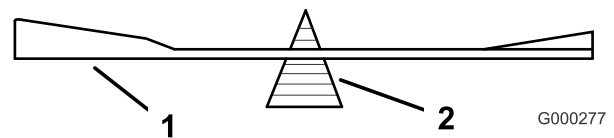
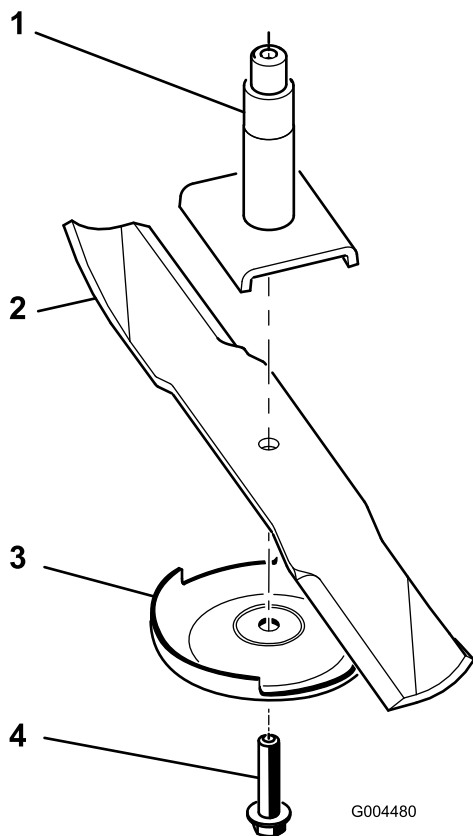

Figure 24
Figure 25
2. Remove the blade bolt, anti-scalp plate, and blade from the spindle shaft (Figure 25).
2. Check the balance of the blade by putting it on a blade balancer (Figure 24). If the blade stays in a horizontal position, the blade is balanced and can be used. If the blade is not balanced, file some metal off the end of the sail area only (Figure 25). Repeat this procedure until the blade is balanced.
1. Install the blade onto the spindle shaft (Figure 25).
2. Install the anti-scalp plate and blade bolt (Figure 25).